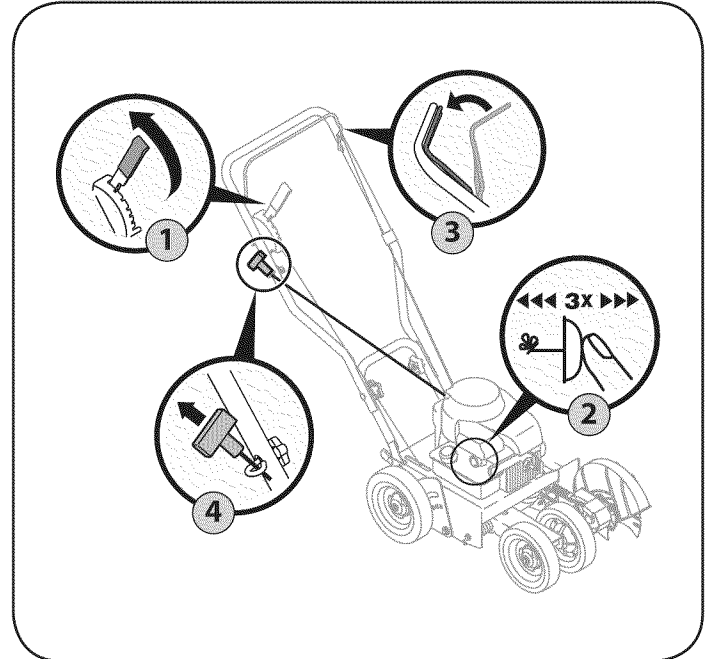

Figure 6
2. When starting the engine for the first time, push primer five times. For all future starts, push the primer three times. See Figure 6. Do not prime to restart a warm engine.